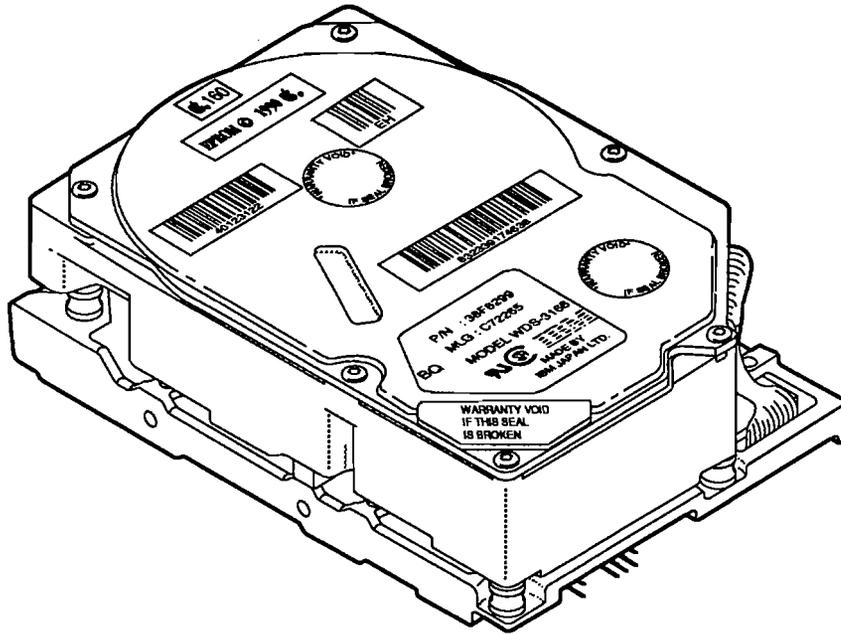

FIGURE 4
- IPL.9 Hard Disk Assembly (HDA) – 3.5-Inch 160 MB (Figure 4)
□ HARD DISK ASSEMBLY (HDA) – 3.5-INCH 160 MB (Figure 4)